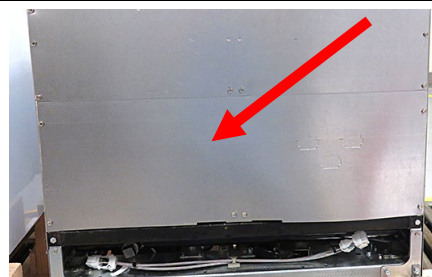

Figure 1
4. Remove the lower rear panel from the fryer (see Figure 1). It may be necessary to remove the basket lift if installed.